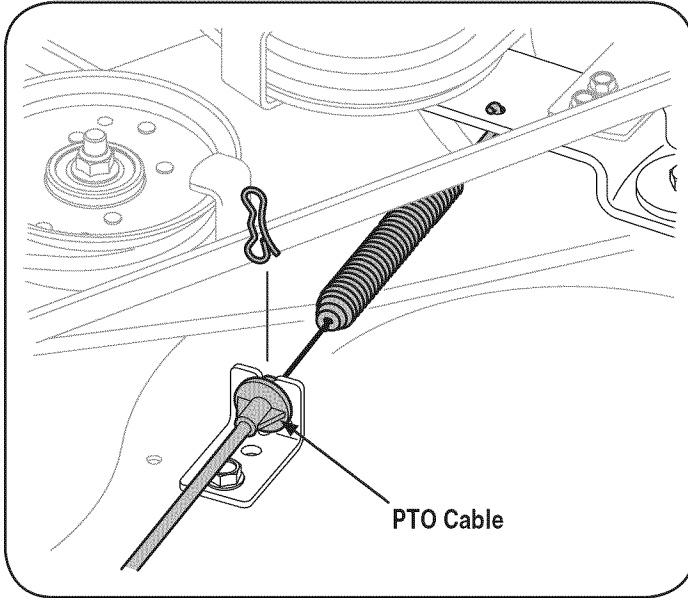

Figure 23
9. Carefully remove the PTO cable from the rear of the cutting deck by removing the bow-tie cotter pin which secures it. Remove the spring from the deck idler bracket. See Figure 23.